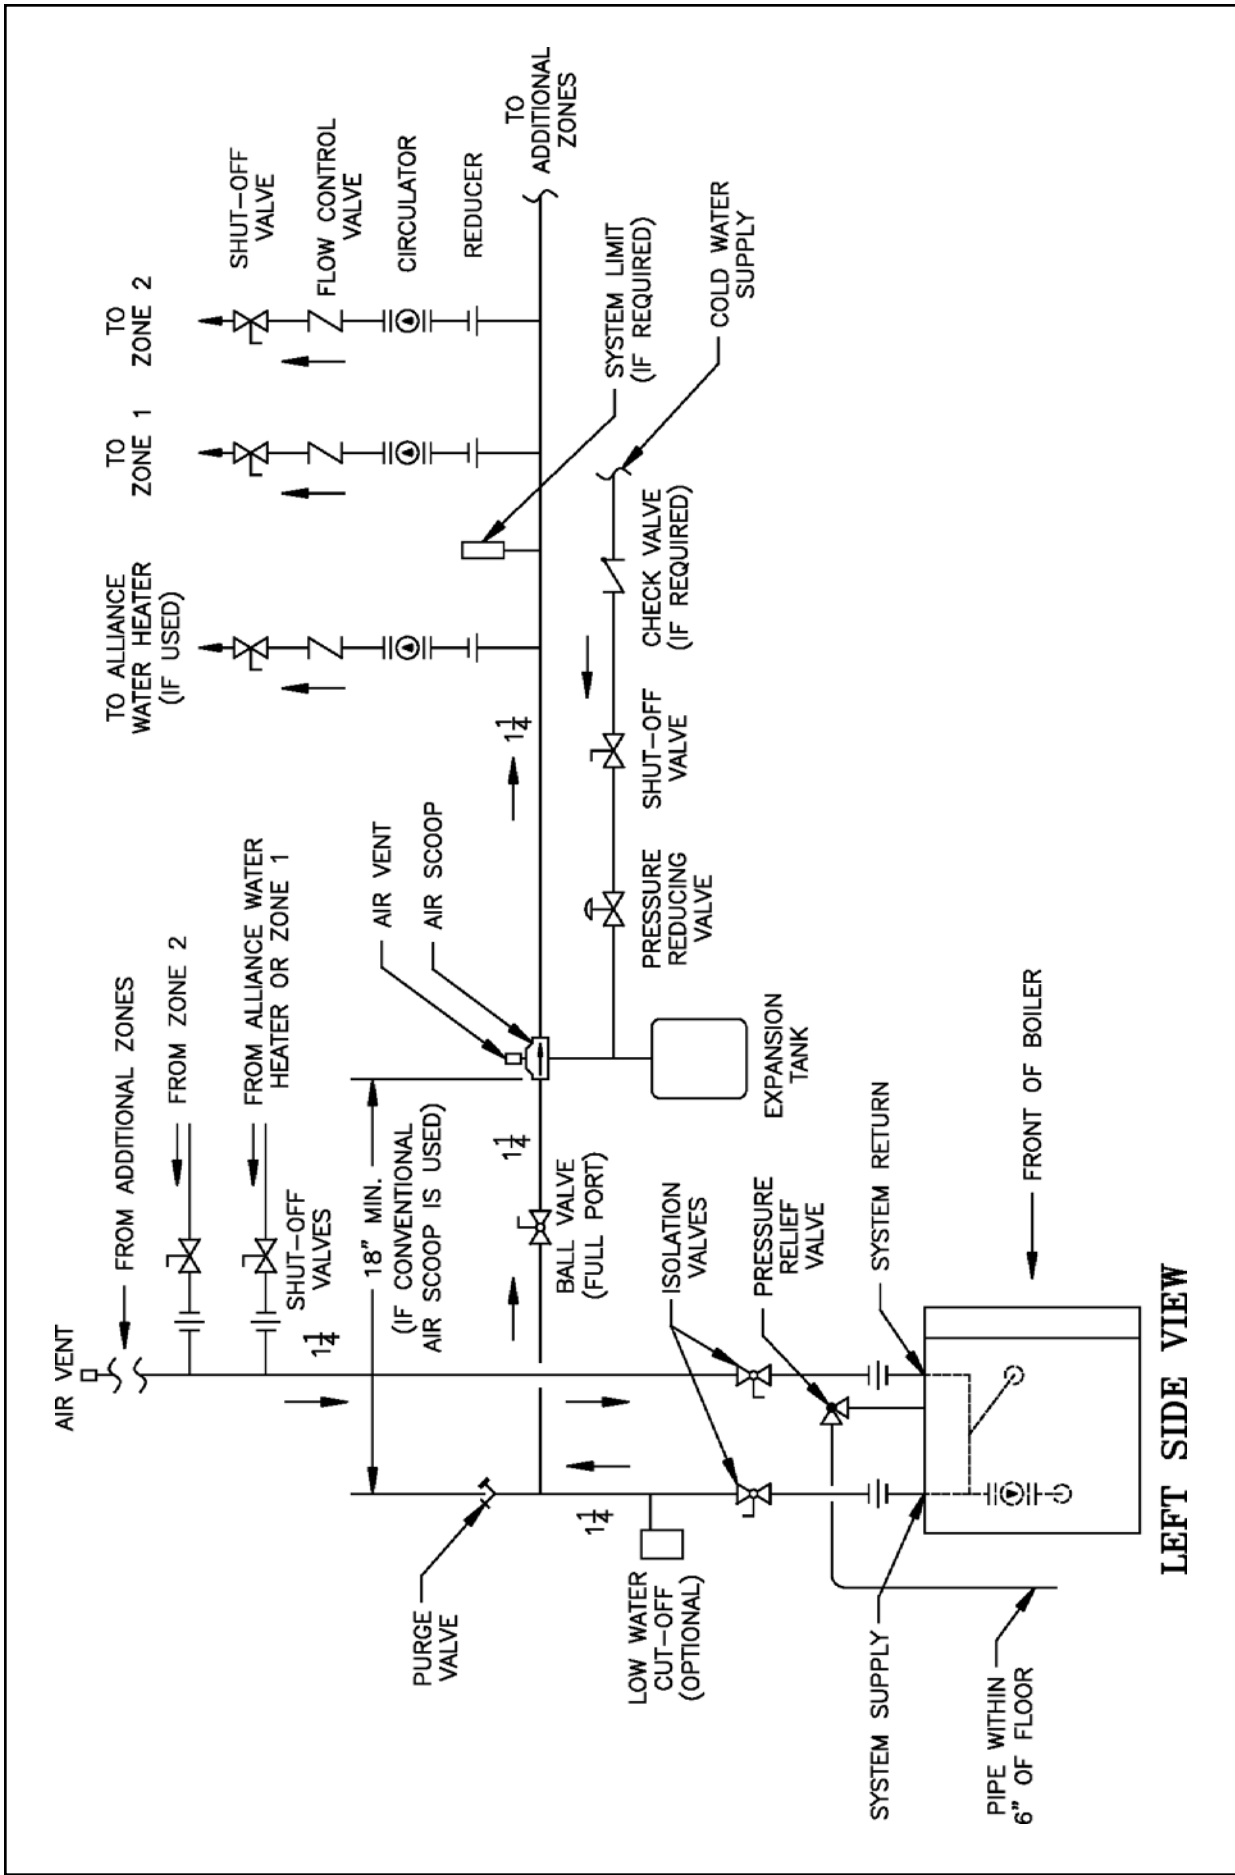

Figure 28: Recommended Boiler Piping For Circulator Zoned Heating Systems
B. Connect system supply and return piping to boiler. See Figures 28 and 29. Also consult I=B=R Installation and Piping Guides. Maintain minimum ½ inch clearance from hot water piping to combustible materials. Refer to Burnham Radiant Heating Co. manual for radiant floor system piping recommendation.
D. Install Pressure Relief Valve. See Figure 28. Pressure Relief Valve must be installed with spindle in vertical position. Installation of the relief valve must comply with the ASME Boiler and Pressure Vessel Code, Section IV.